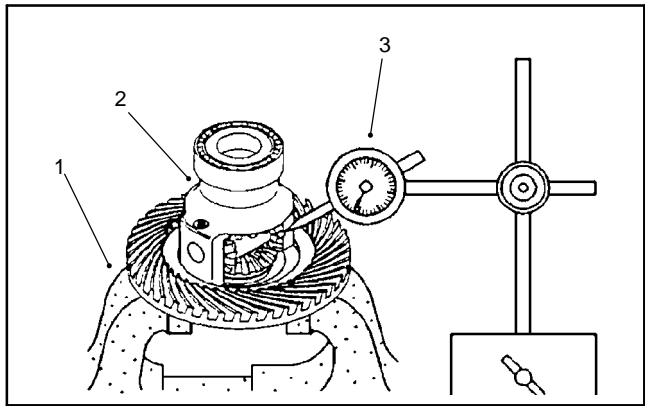

Figure 41
5. Secure the differential case in a soft jawed vise. Position a dial indicator on a tooth of the differential pinion gear. Press the pinion and side gear against the differential case and measure the pinion gear to side gear backlash (Fig. 41).